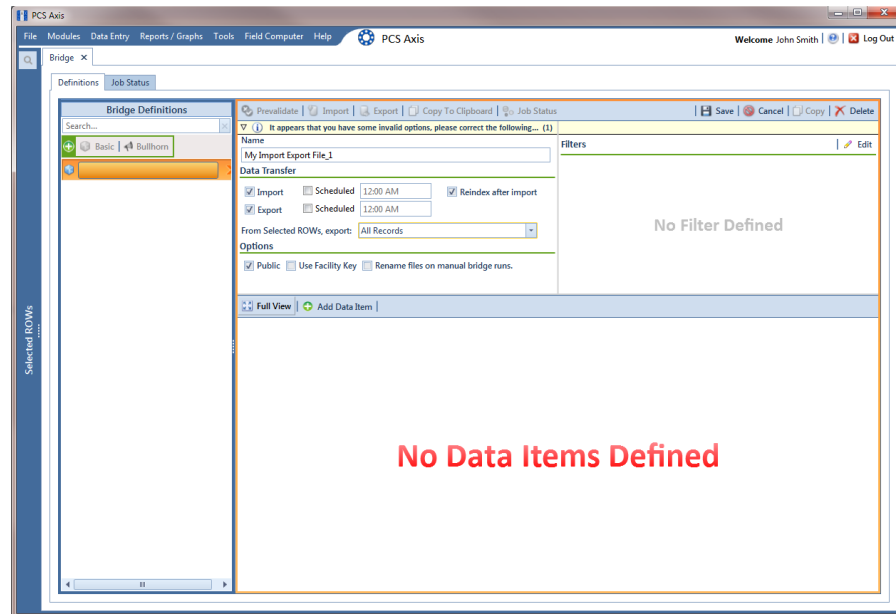

Figure 10-43. Bridge Import Export Definition
- 4 Type a unique name for the definition in the **Name** field (Figure 10-43, page 530).
- 5 To set properties in the *Data Transfer* group box, follow these steps (Figure 10-43, page 530):
- 6 To set properties in the *Options* group box, follow these steps (Figure 10-43, page 530):